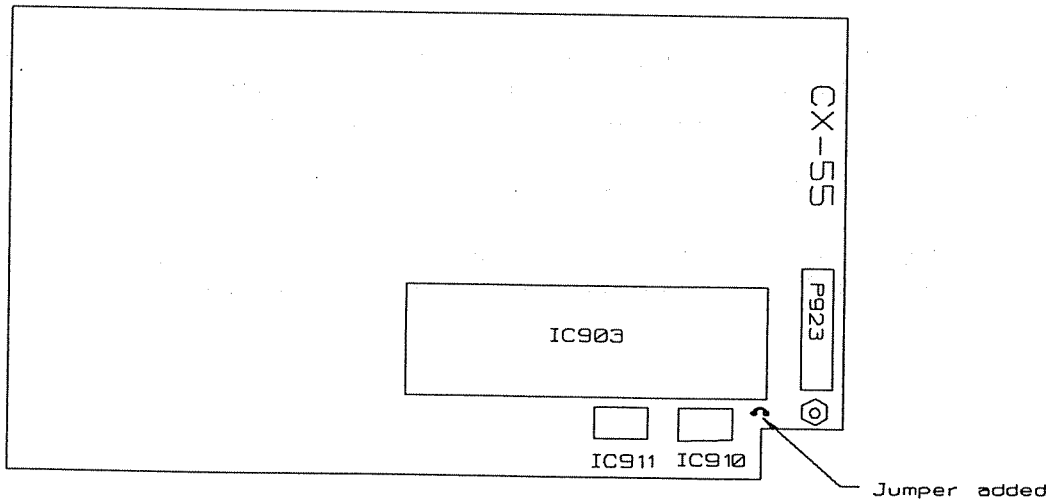

Figure 2
5. Solder a jumper where shown in **Figure 2**. This connects pin 30 of IC903 to pin 13 of P923.